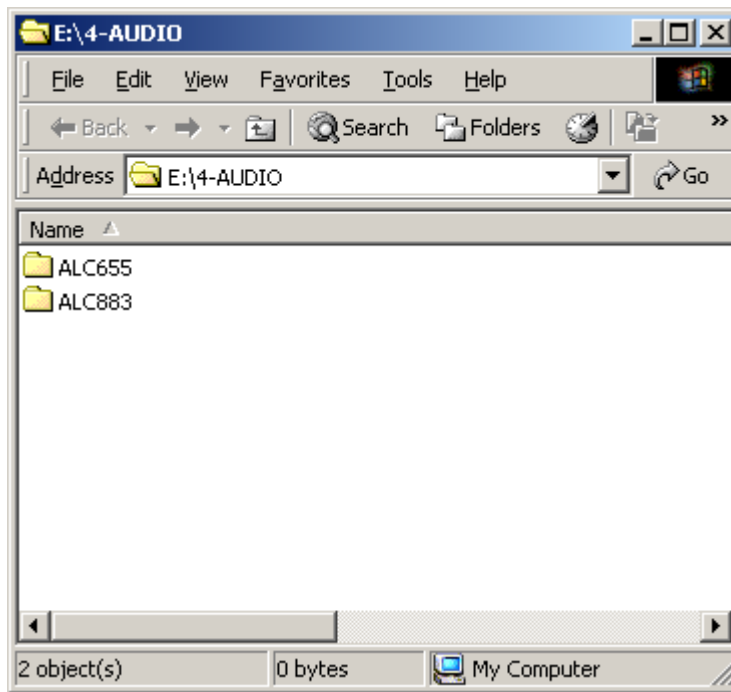

Figure 7-19: Select the Audio CODEC
Step 2: A new window opens (Figure 7-19).